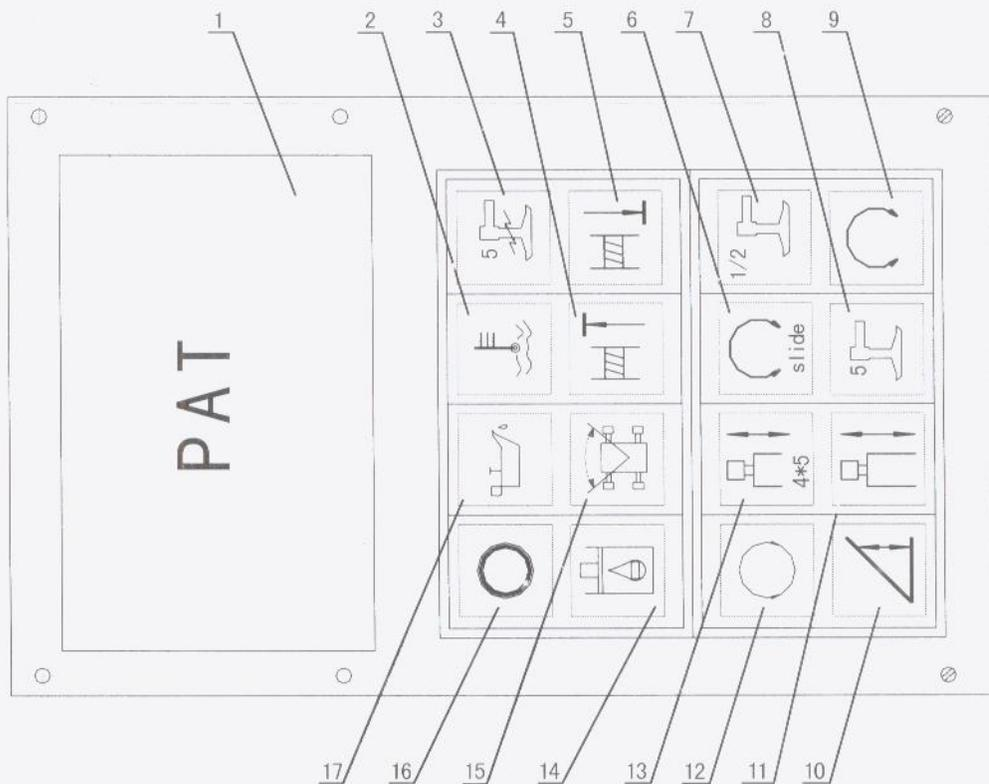

Fig 4-2
b. Instrument Panel (Fig. 4-2)